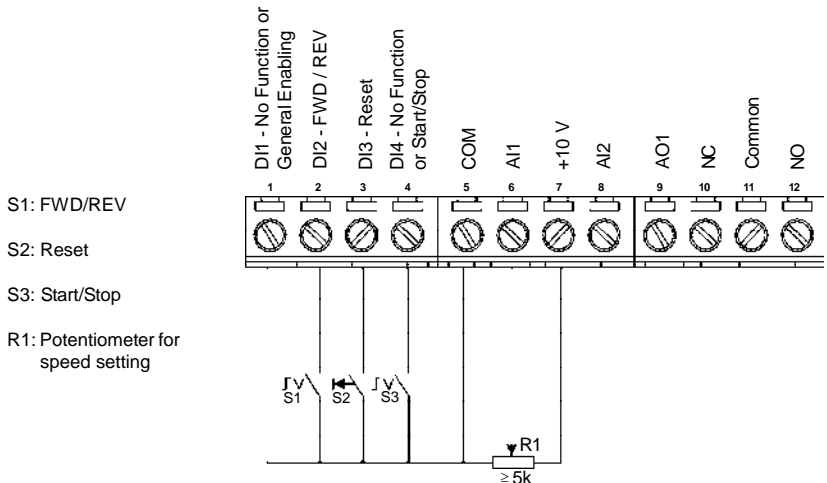

Figure 3.16 - XC1 wiring for connection 2
The figure 3.16 shows the inverter terminal connection for this type of driving.
- ☑ The frequency reference can be sent via AI1 analog input (as shown in figure 3.16), via keypad HMI-CFW08-P, or via any other source (as described in the parameters P221 and P222).